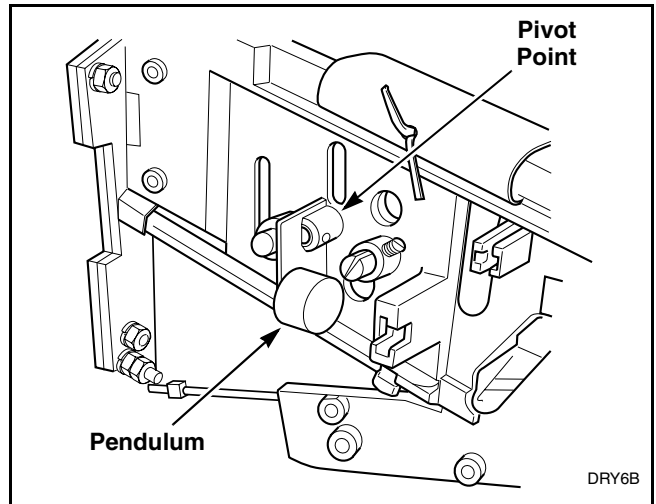

Figure 5
9. Check the return pendulum to verify it swings freely. If the pendulum does not swing freely, spray the pendulum pivot point with Teflon-based lubricant and move the pendulum back and forth 3 times. An additional application of Teflon-based lubricant may be necessary to ensure the pendulum swings freely. Refer to *Figure 5*.